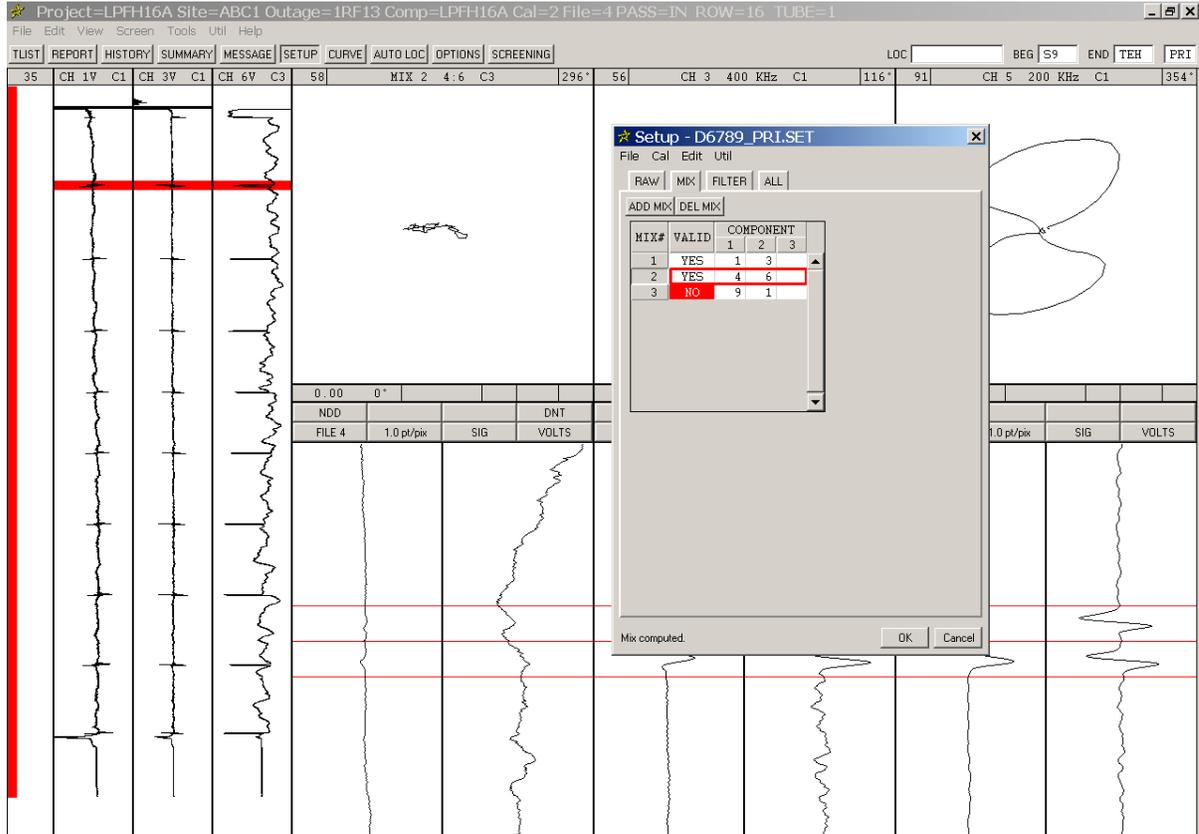

Figure 1-15. Setup Dialog - Mix Tab After Mixing Out TSP
- STEP 13:** Click the *Valid* field (*red*) for *Mix # 2*. The field turns white and displays *Yes*. The TSP absolute mix is now completed. The *Mix* tab of the *Setup* dialog should now look like Figure 1-15.